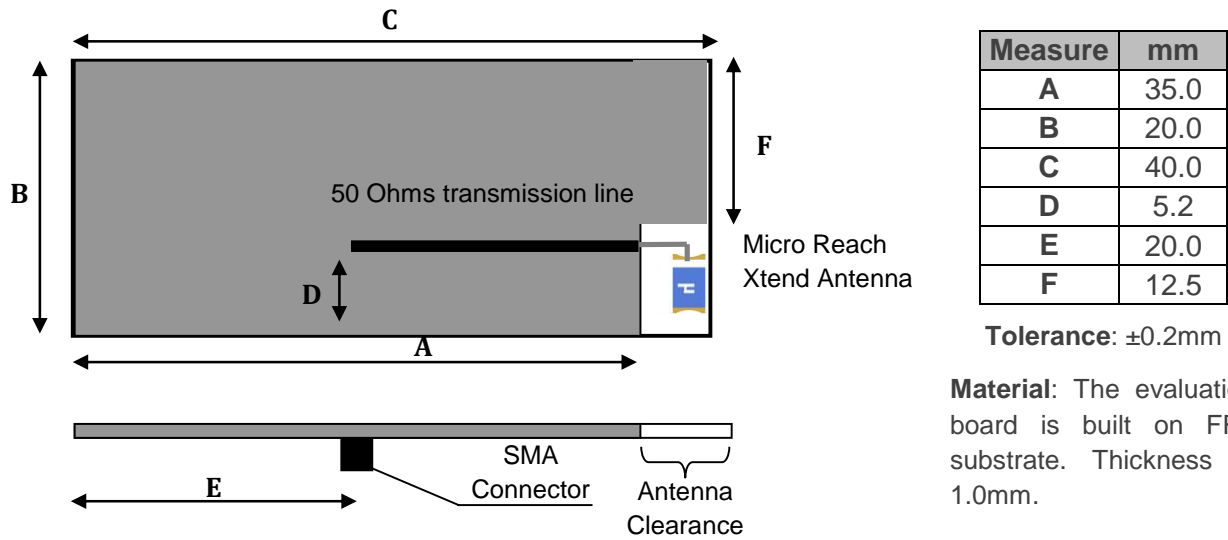

Figure 1 – Micro Reach Xtend™ Evaluation Board.
**Table 1** – Technical Features. Measures from the evaluation board. See Figure 1 and picture on page 5.
The Fractus configuration used in testing the Micro Reach Xtend™ chip antenna is displayed in Figure 1.